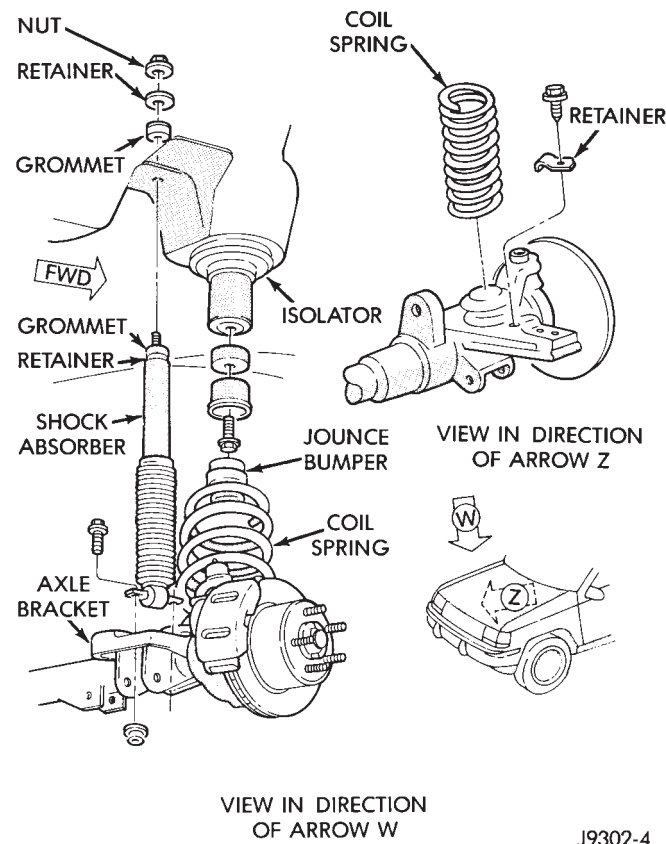

Fig. 2 Coil Spring & Shock Absorber
(1) Remove the nut, retainer and grommet from the upper stud in the engine compartment (Fig. 2).
(1) Raise and support the vehicle. Position a hydraulic jack under the axle to support it.
(2) Remove rear lower suspension arm bolts.
(3) Remove caliper flex hose brackets from the frame rails.
(4) Remove ABS sensor wires from brackets.
(5) Disconnect the stabilizer bar link and shock absorber from the axle.
(6) Disconnect the track bar from the frame rail bracket.
(7) Disconnect the drag link from the pitman arm.
(8) Lower the axle until the spring is free from the upper mount. Remove the coil spring retainer bolt (Fig. 2) and remove the spring.
(9) Remove the jounce bumper if necessary from the upper spring mount (Fig. 2).